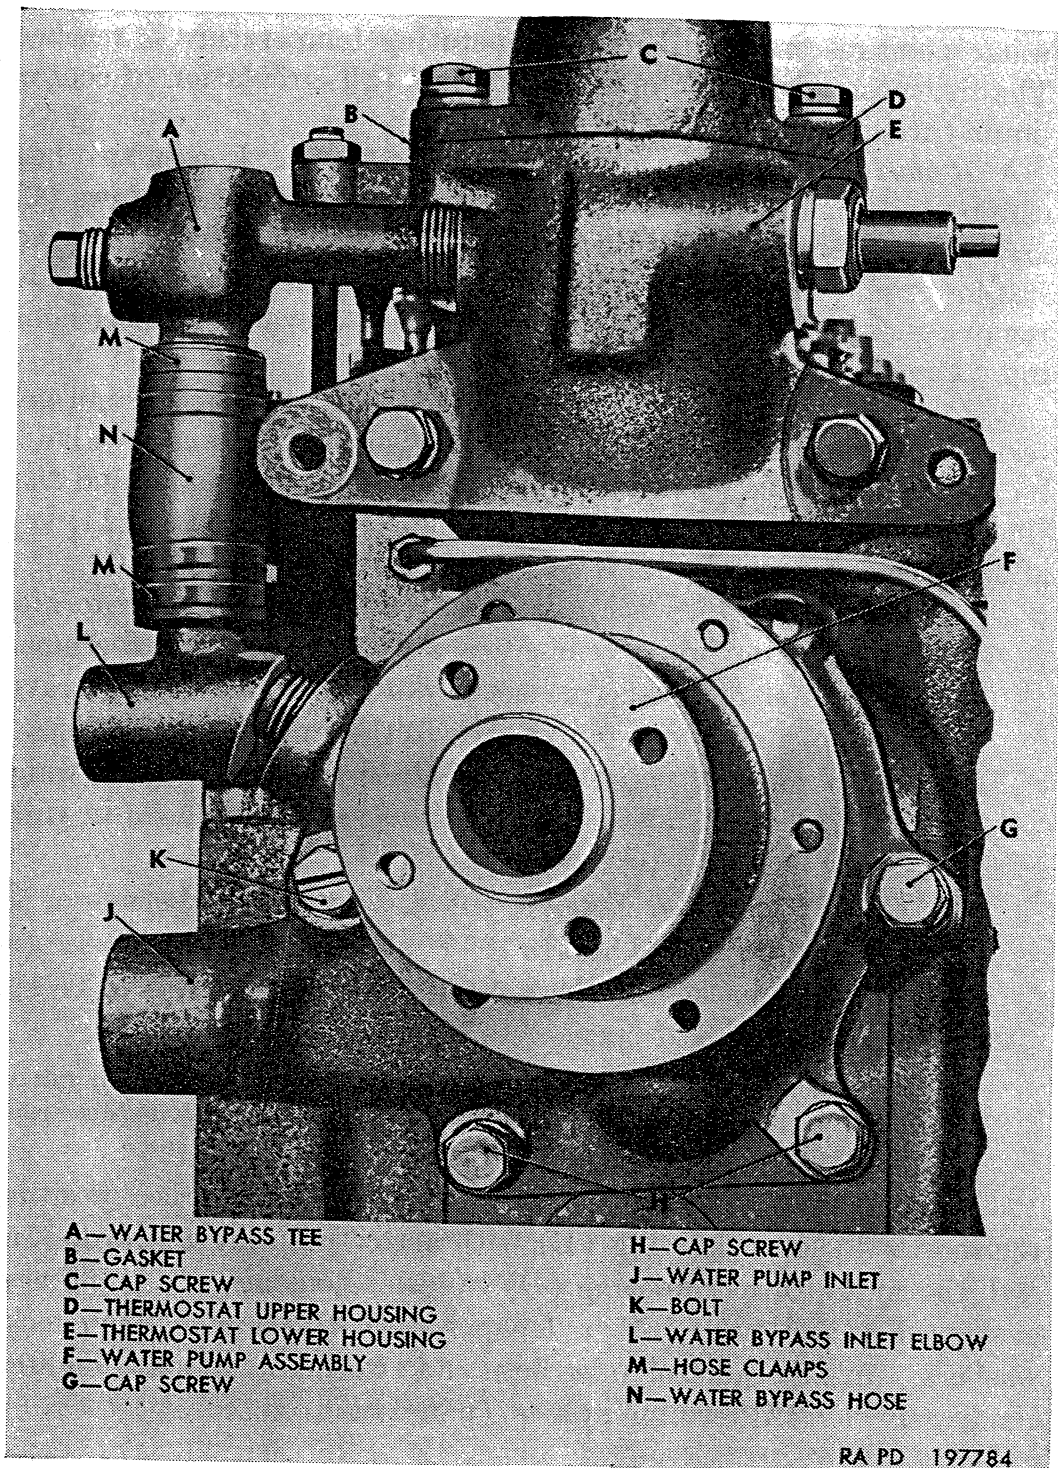

Figure 142. Water pump, thermostat housing, and water bypass fittings.
(fig. 142)
*Note.* The key letters noted in parentheses are in figure 142, except where otherwise indicated.